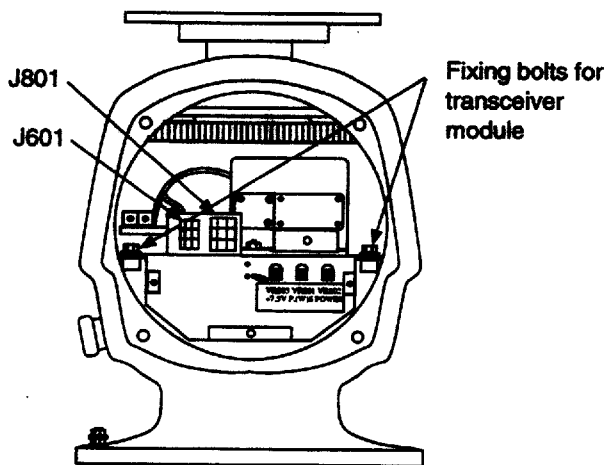

Figure 7 Transceiver unit, front view
- 4) Unfasten four fixing bolts on the cable gland at the base of the scanner unit. Remove clamping ring, rubber gasket and flat washers (2) from cable gland. See Figure 7.